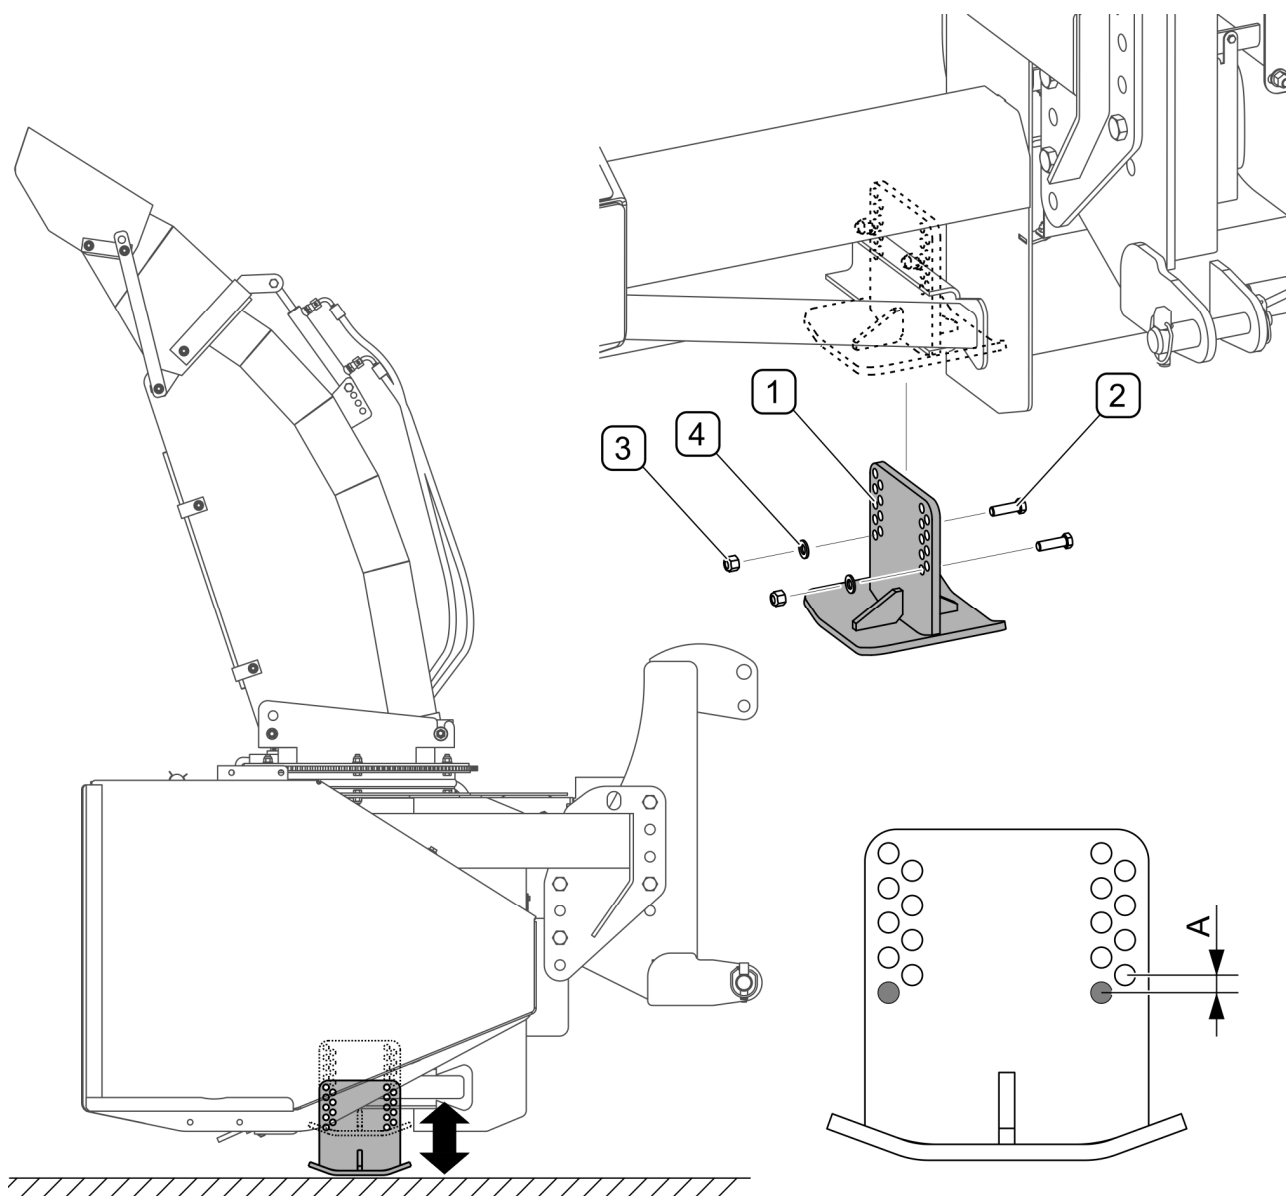

FIG. 4.9 Adjusting the working height by means of skids
If adjustment of the working height by means of the central link is insufficient, the skid height adjustment may be carried out (FIG. 4.9). Such adjustment is carried out within the range of 88 mm by changing position of bolts (2) in skid fixing holes arranged every 11 mm (A). In order to do this raise the snow blower and support with sufficiently stable and strong supports. If the machine is hitched and raised on the three-point linkage, protect it additionally against falling and immobilise the carrying vehicle (turn off the engine and engage the parking brake.) Undo nuts (3), take out bolts (1) and insert them again in suitable holes in the skid. Fix both skids at the same height, tighten nuts (3).